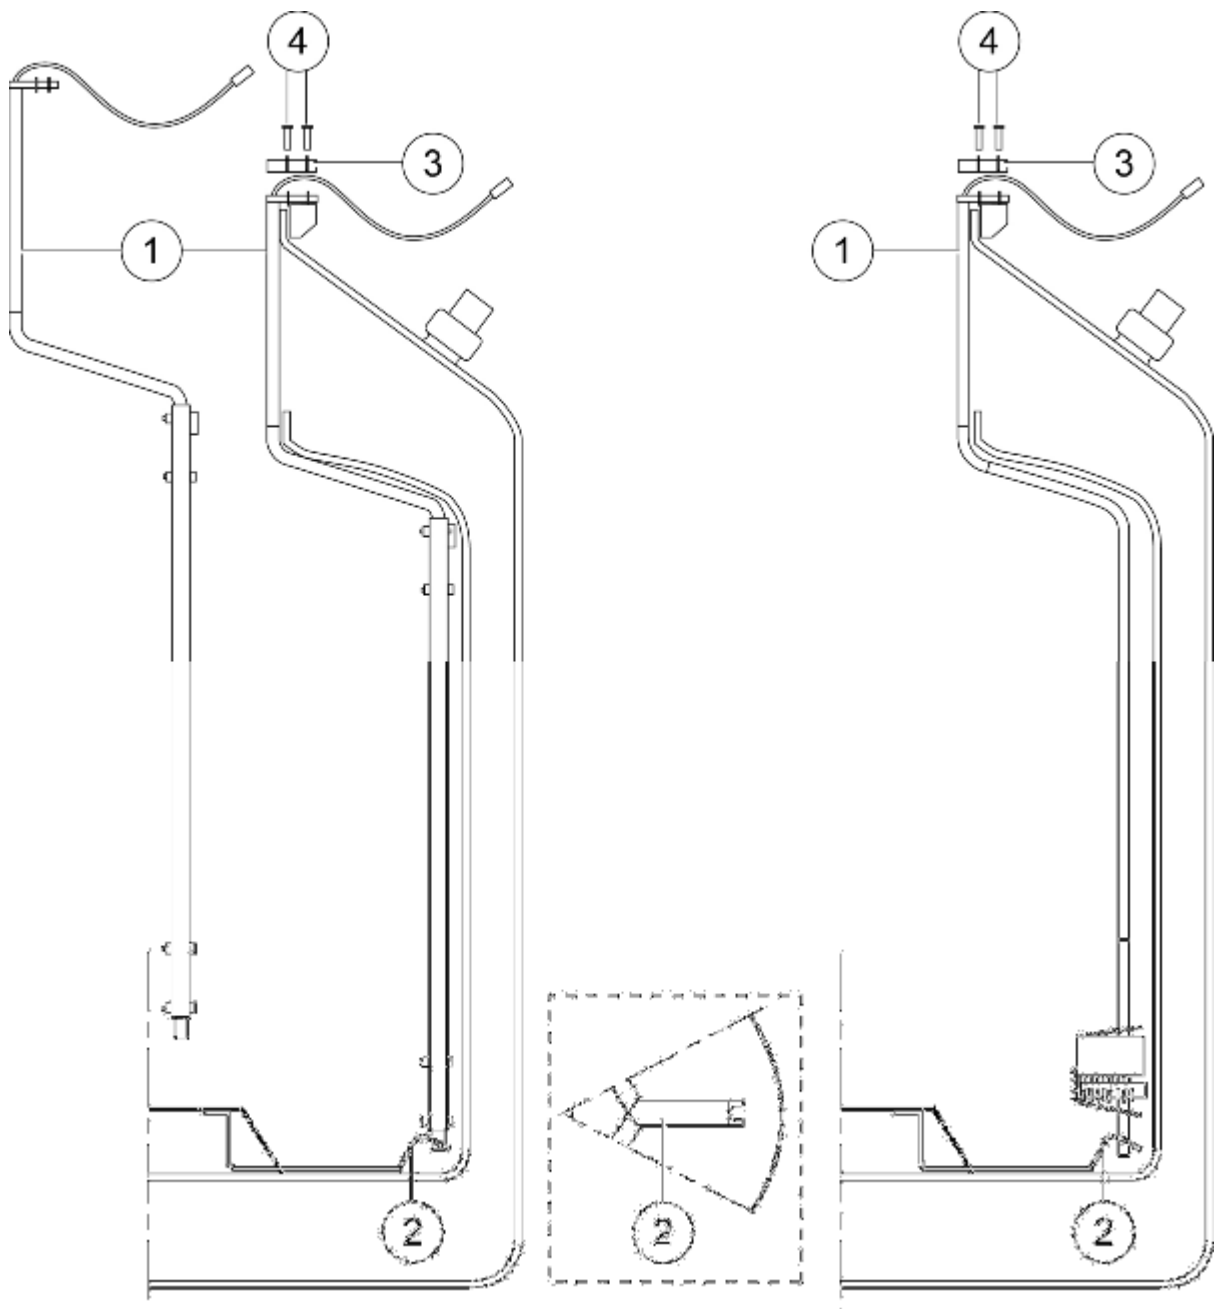
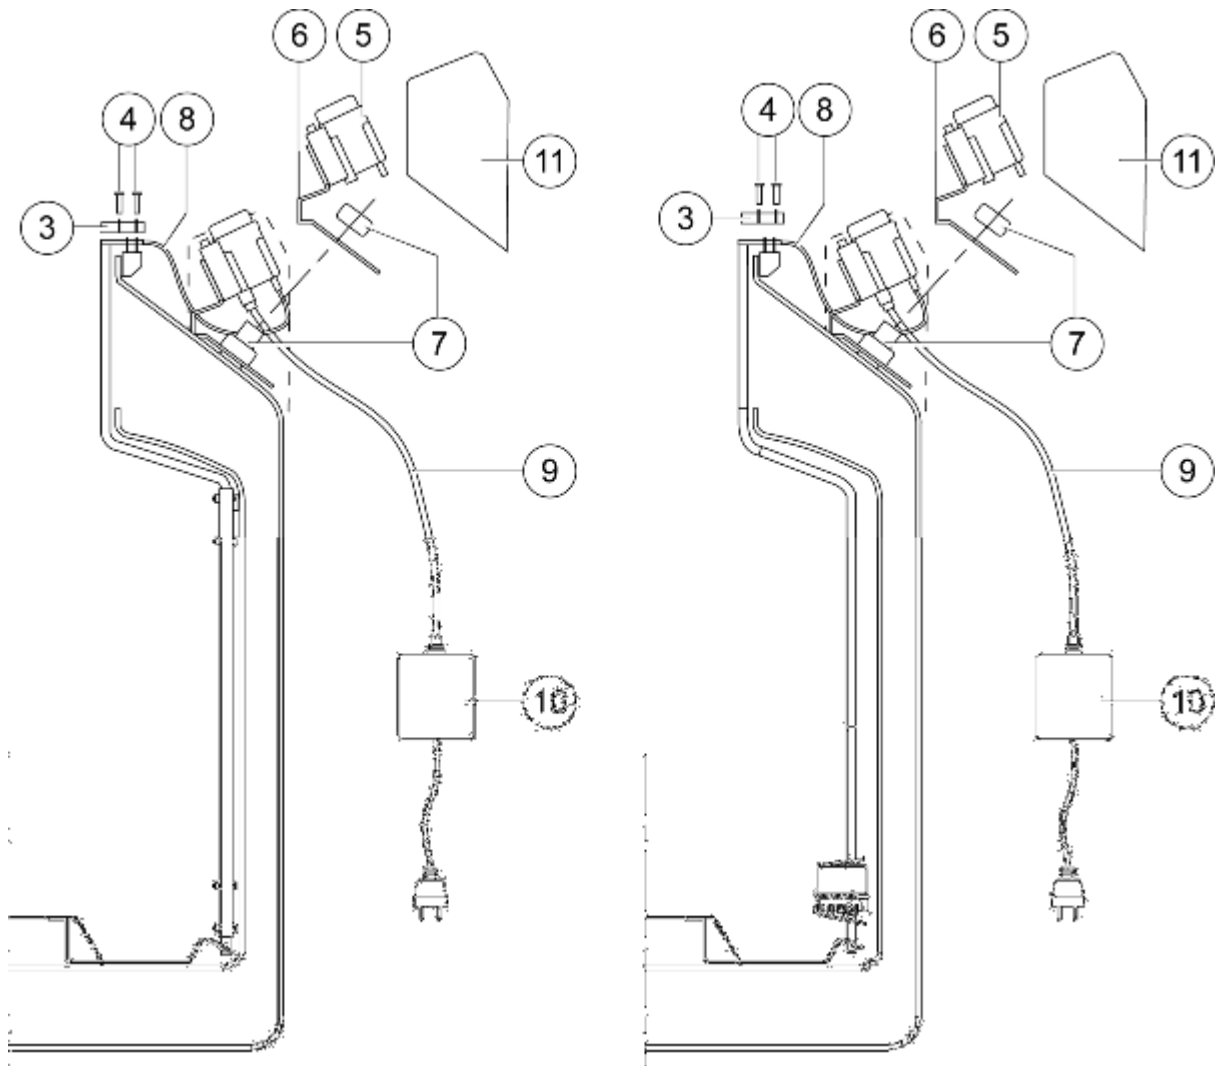
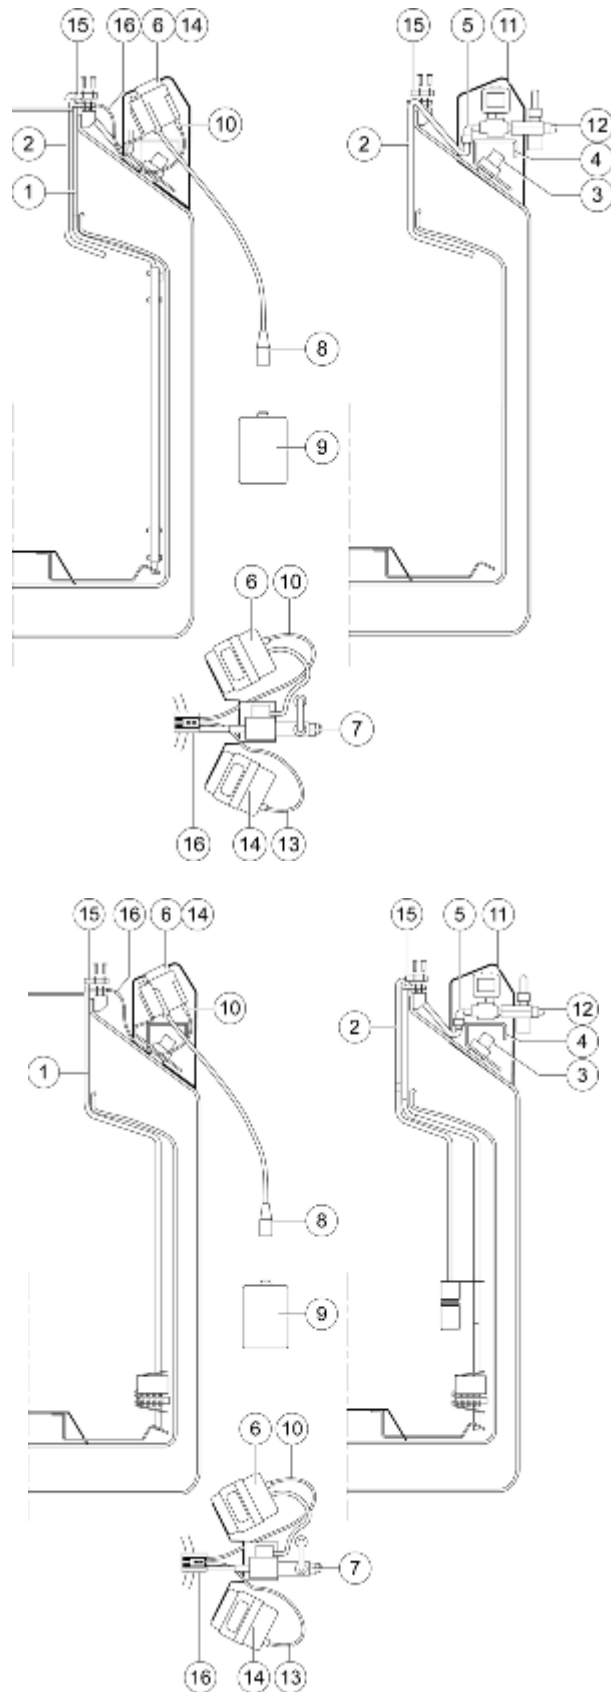

Figure 1
Figure 2
Figure 3
1.1 – CAPACITIVE GAUGE (figure 1 page 5)
- Put the pre-assembled gauge in place (1) without distorting it, by inserting the lower cylindrical part of the gauge into the slot of the fixing lug (2) at the bottom of the vessel.
- Place the flange (3) without damaging the cables.
- Tighten the screws (4) to fasten.
1.2 – LEVEL INDICATOR CASE (figure 2 page 6)
- Unscrew the knurled stop ring (7) from the pumping valve.
- Position the support plate (6) on the vessel.
- Manually tighten the knurled stop ring (7).
- Assemble the indicator case (5) onto the support plate (6).
- Connect the gauge cable (8) to the case (5) using the coaxial connector.
- Connect the electric plug (9) to the power supply case (10) to be attached to the wall.
- Cover with the protective cap (11) without blocking the various cables
2.1 – CAPACITIVE GAUGE AND TEMPERATURE PROBE (figure1 page 5)
- Tighten the Rilsan collar (16) onto the probe cable (13) in order to prevent it from falling into the vessel (figure 3 page 8)
2.2 – LEVEL INDICATOR CASE AND TEMPERATURE INDICATOR (Figure 2 page 6)
- Unscrew the black knurled stop ring (7) from the pumping valve.
- Assemble the 2 cases onto the support plate (6).
- Connect the 2 indicators to the power supply case (10) to be attached to the wall.
See procedure (figure 1 page 5) § 1.1
3.2 – LEVEL CONTROL (figure 3 page 8)
- Place the liquid supply tube (2) with the support plate (6).
- Unscrew the black knurled stop ring (3).
- Position the support plate (6) on the vessel
- Manually tighten the knurled stop ring (3).
- Assemble the indicator case (6) onto the plate equipped with the electrovalve (4).
- Power-supply the electrovalve with the plug (7).
- Connect the gauge wire (10) to the case (6) using the coaxial connector.
- Connect the supply plug (8) to the power supply case (9) to be attached to the wall.
See procedure (figure 1 page5) § 2.1.
4.2 – LEVEL CONTROL AND TEMPERATURE PROBE (figure 3 page 8)